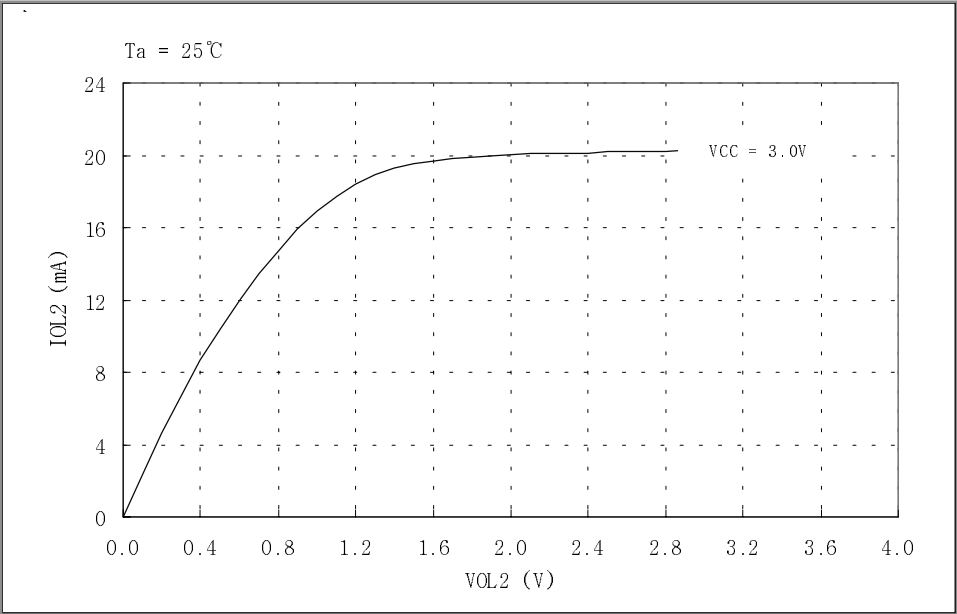
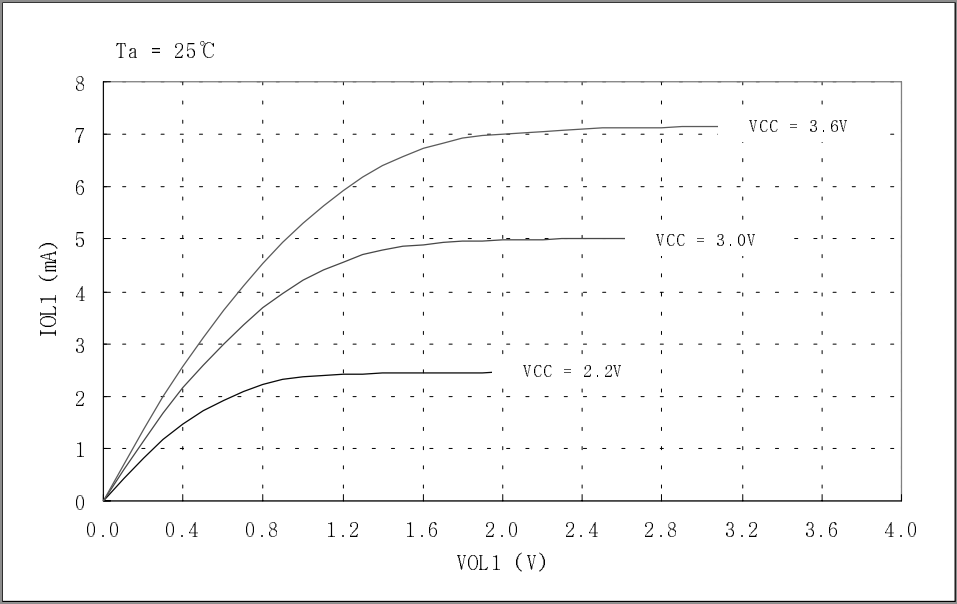
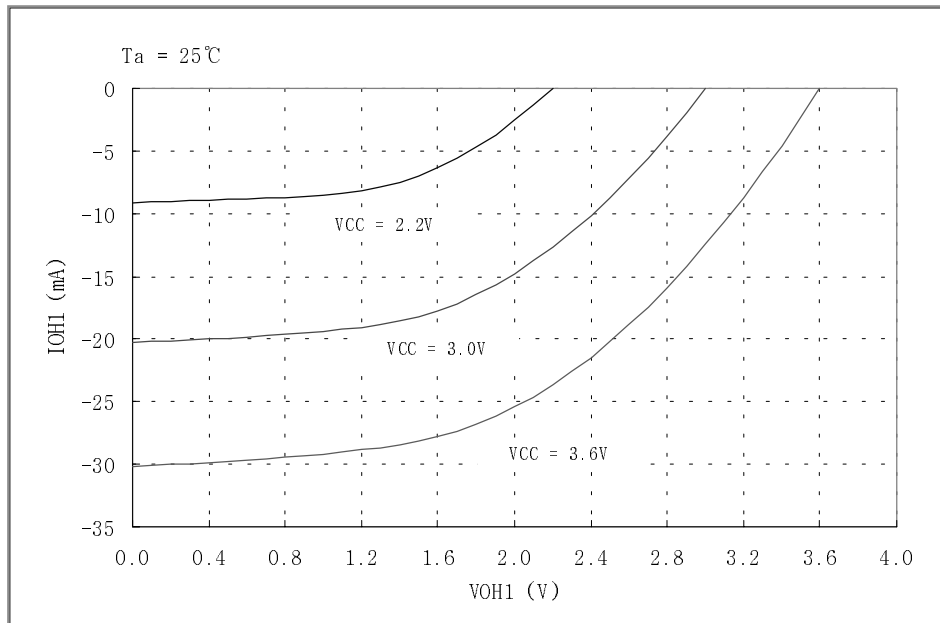

Fig 8-1. IOL2 vs. VOL2 Graph. (D, R, OD6 Port)
Fig 8-2. IOL1 vs VOL1 Graph (REMOUT Port)
Fig 8-3. I_{OH1} vs V_{OH1} Graph (REMOUT Port)
*1 Refer to Fig.8-1 < I_{OL2} vs. V_{OL2} Graph>*2 Refer to Fig.8-2 < I_{OL1} vs. V_{OL1} Graph>*3 Refer to Fig.8-3 < I_{OH1} vs. V_{OH1} Graph>*4 I_{DD1}, I_{DD2} is measured at RESET mode.